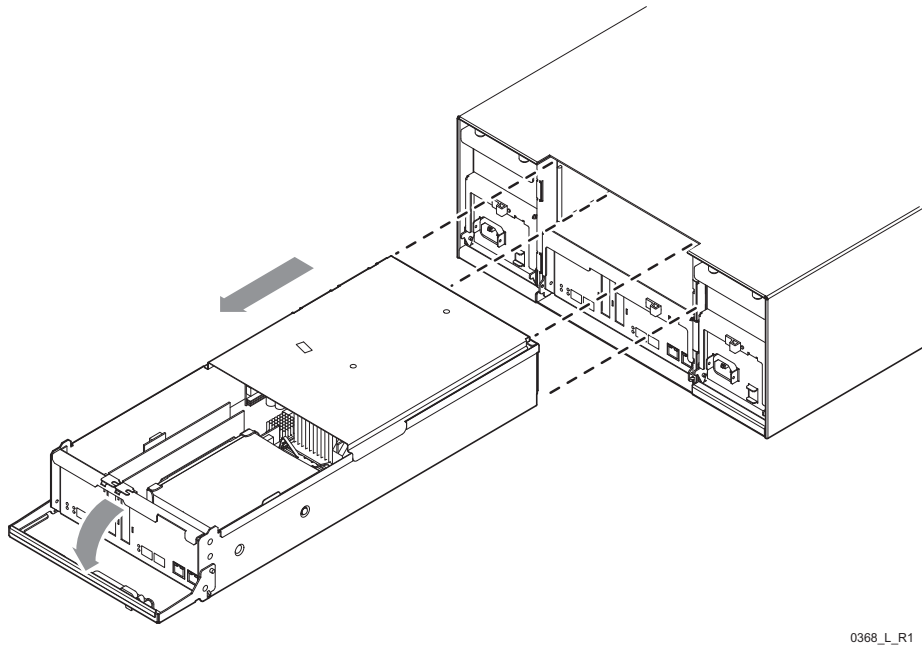

Figure 9-3. Extracting the Controller Node from the Chassis
- 5 With one hand on the release lever and the other hand supporting the weight of the controller node from beneath, slide the node out of the chassis, as shown in Figure 9-3.